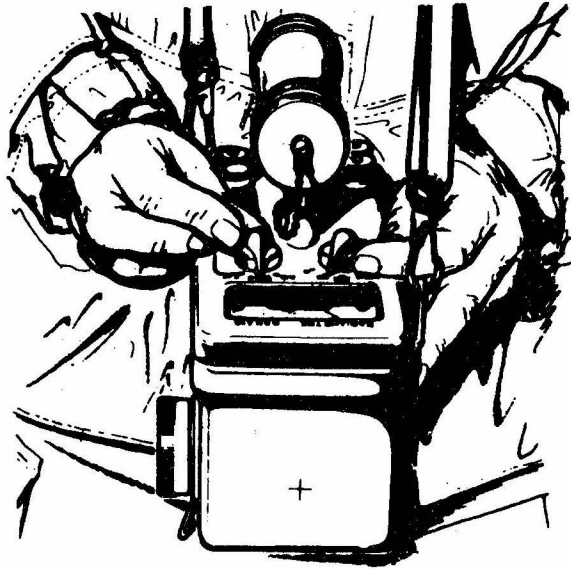

Fig. 8 — CARRYING THE DOM 410 RADIATION METER
- one position when in use (fig.8).